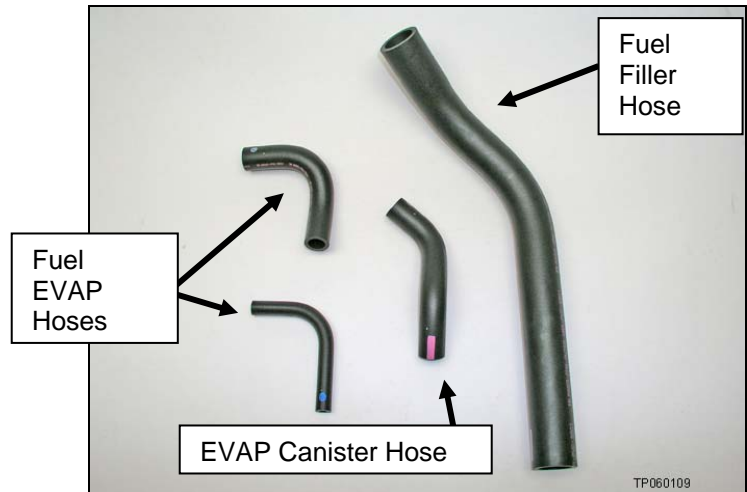

Figure 1a
- Fuel hose kit (see Figure 1a)